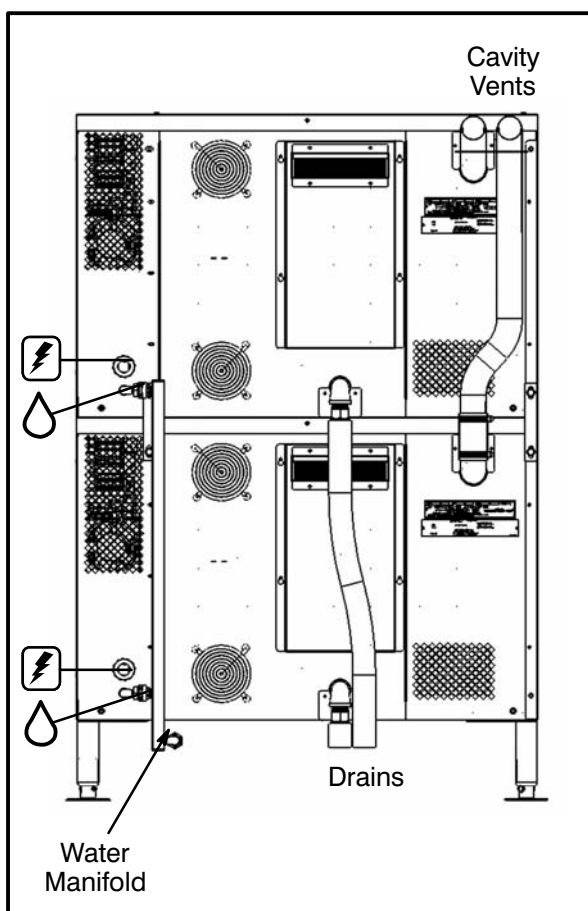

Figure 6
NOTE: Refer to Figure 6 for location of utility connection on the back of the ovens.
4. Attach the supplied drain hose to the top unit. Cut for proper length into the funnel drain. Use the remaining piece of hose for the bottom oven if necessary. See Figure 6 for location of drain connection on back of ovens.